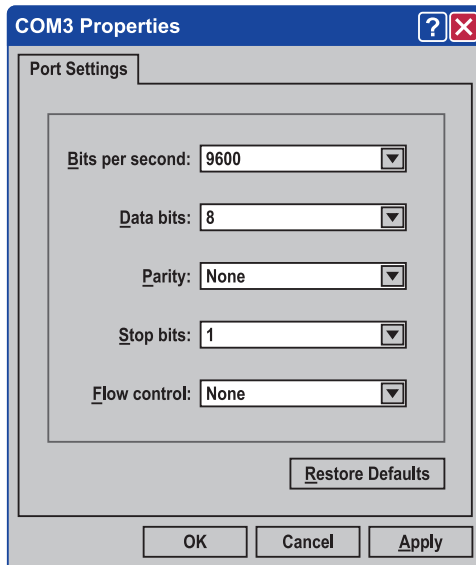

Figure A-2. COM3 Properties tab.
- Click the "Settings" button to open the COM Properties menu. Change your parameters to 9600 bits per second, 8 data bits, no parity, 1 stop bit, and no flow control, as pictured in Figure A-2.